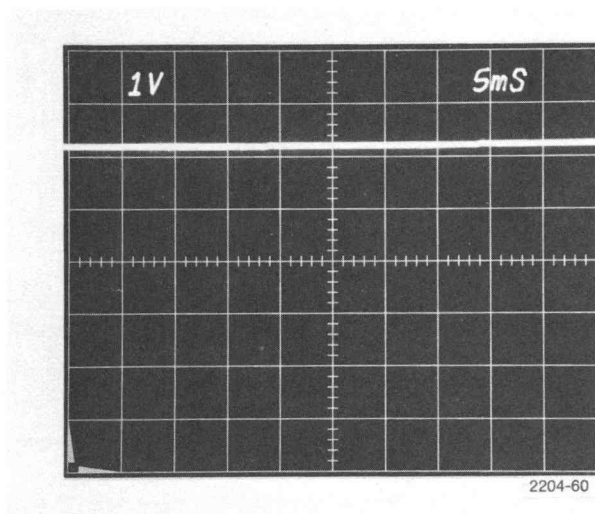

Fig. 6-13. All lines same switching.
d. CHECK—for an error voltage of approximately 5 V, with slight offset at field rate. See Fig. 6-13.